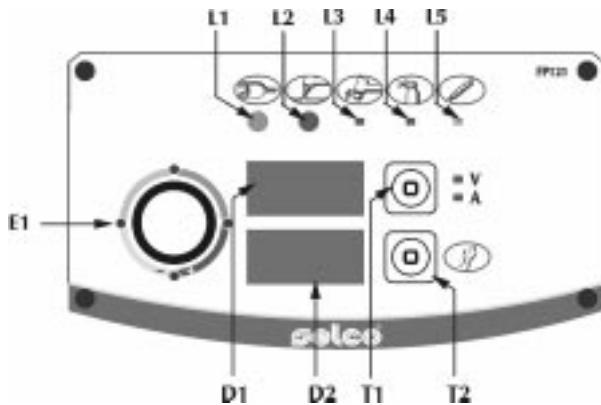

Fig. 1
2.1.1 Front control panel FP121 (Fig.1)